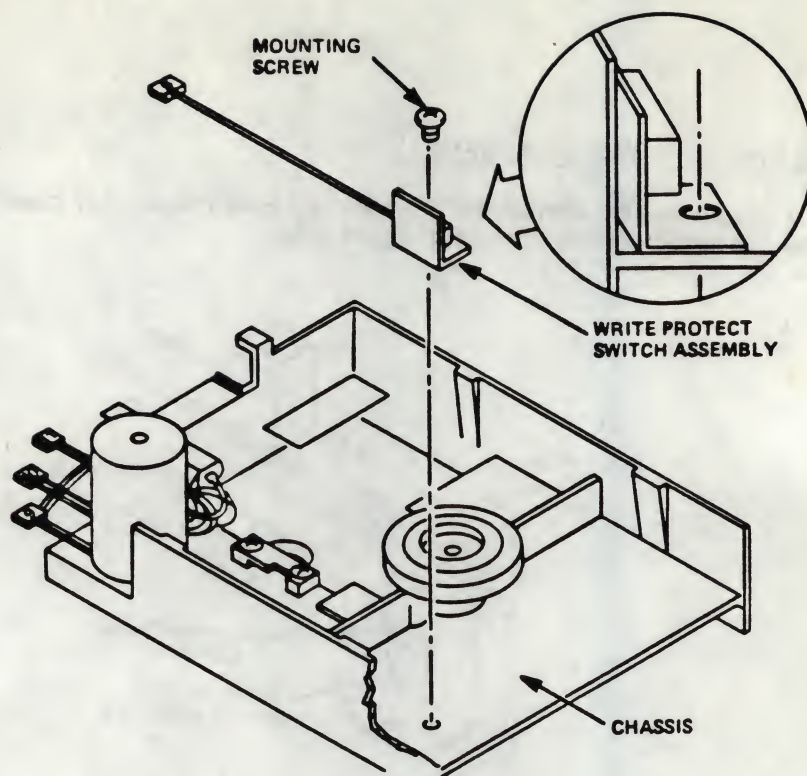

Figure 5-24
5.12.3 With a Phillips screwdriver, remove the mounting screw that attaches the Write Protect Switch Assembly to the side of the chassis (see Figure 5-24).